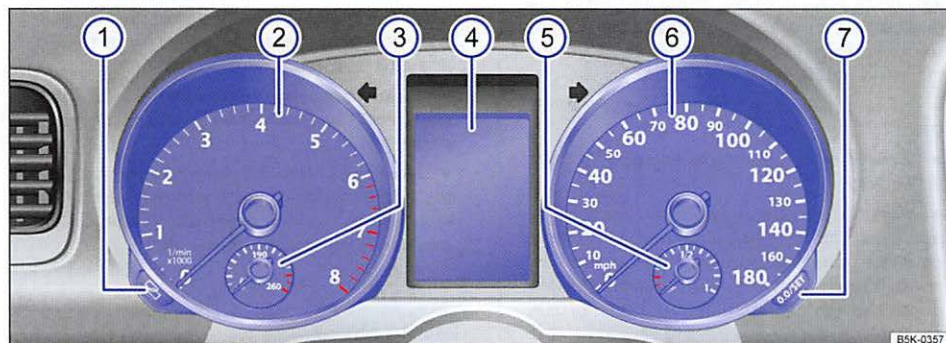

Fig. 9 Instrument cluster in the instrument panel.
Instrument explanations ⇒ fig. 9:
Depending on the vehicle model, different information may be shown in the instrument cluster display ⇒ fig. 9 ④.
The service appointment reminder is shown in the instrument cluster display ⇒ **fig. 9 (4)**.